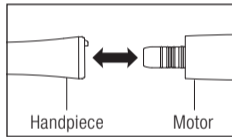

Fig. 1
- 1 Insert the handpiece direct to the motor (Fig. 1). When connecting an optic handpiece, screw the handpiece until it clicks and locks into position.